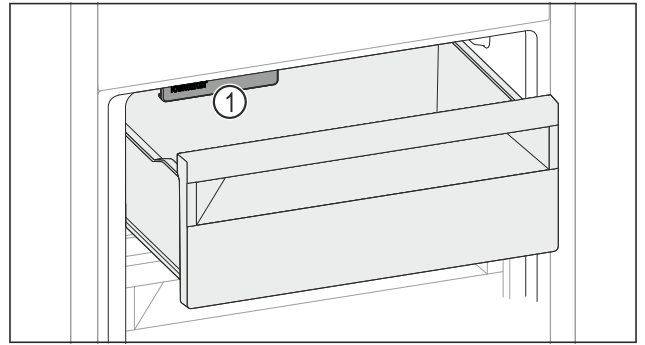

Fig. 101
- ▶ If you put food in the left side of the drawer: Pay attention to the IceMaker Fig. 101 (1).